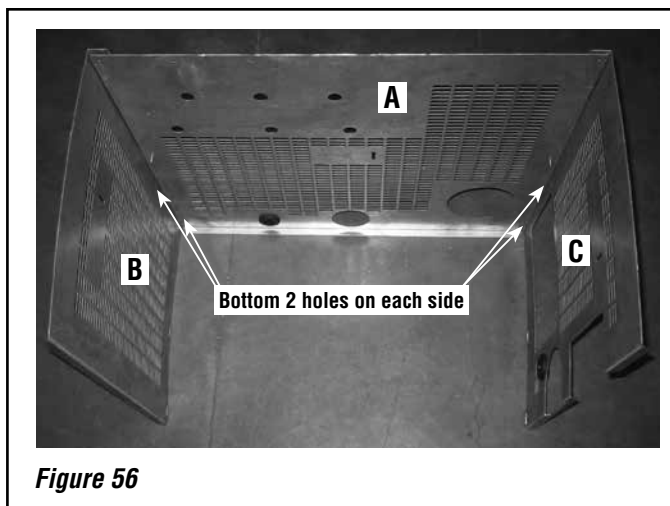

Figure 56
- Assemble the perimeter (see **Figure 56**)** - Using only the bottom 2 holes on each side, screw the left side panel (B) and the right side panel (C) to the back panel (A).